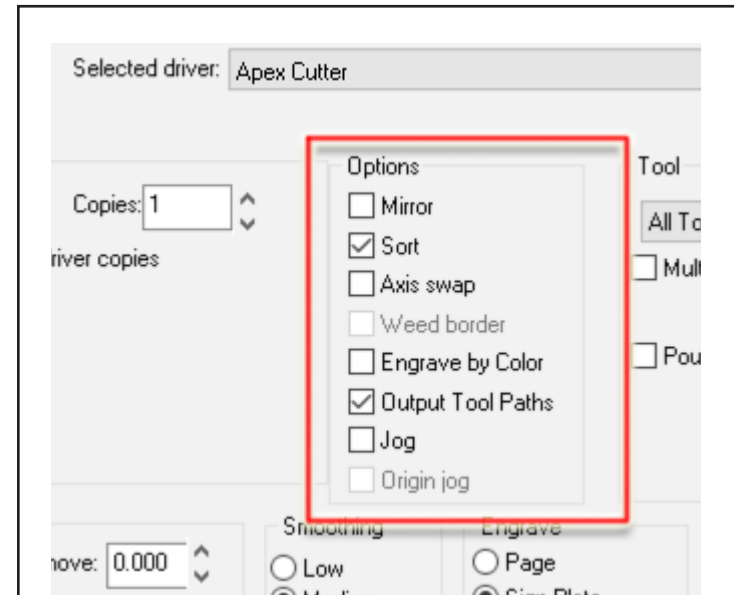

Fig. 7 - Engraving by color allows you to engrave specific portions of your design in isolation (e.g., when different tools are required for each operation).
- c) If your workflow involves two-or-more tools that must be manually swapped out between passes, then tick the **Engrave by Color** option (Fig. 7).